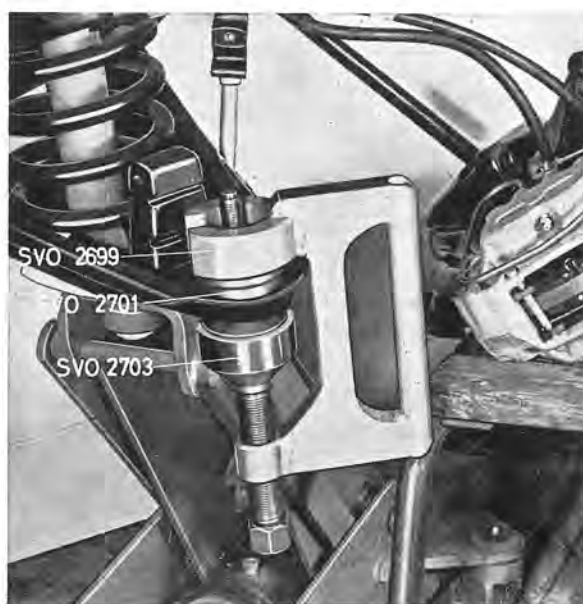

Fig. 6-30. Installing lower ball joint
2. Press the ball joints in the control arm with tools 2699+2701+2703, see Fig. 6-30. If the ball joint is fitted at a slant turn the tool 180° and press the ball joint in correctly. The joint must not be loose in the control arm.